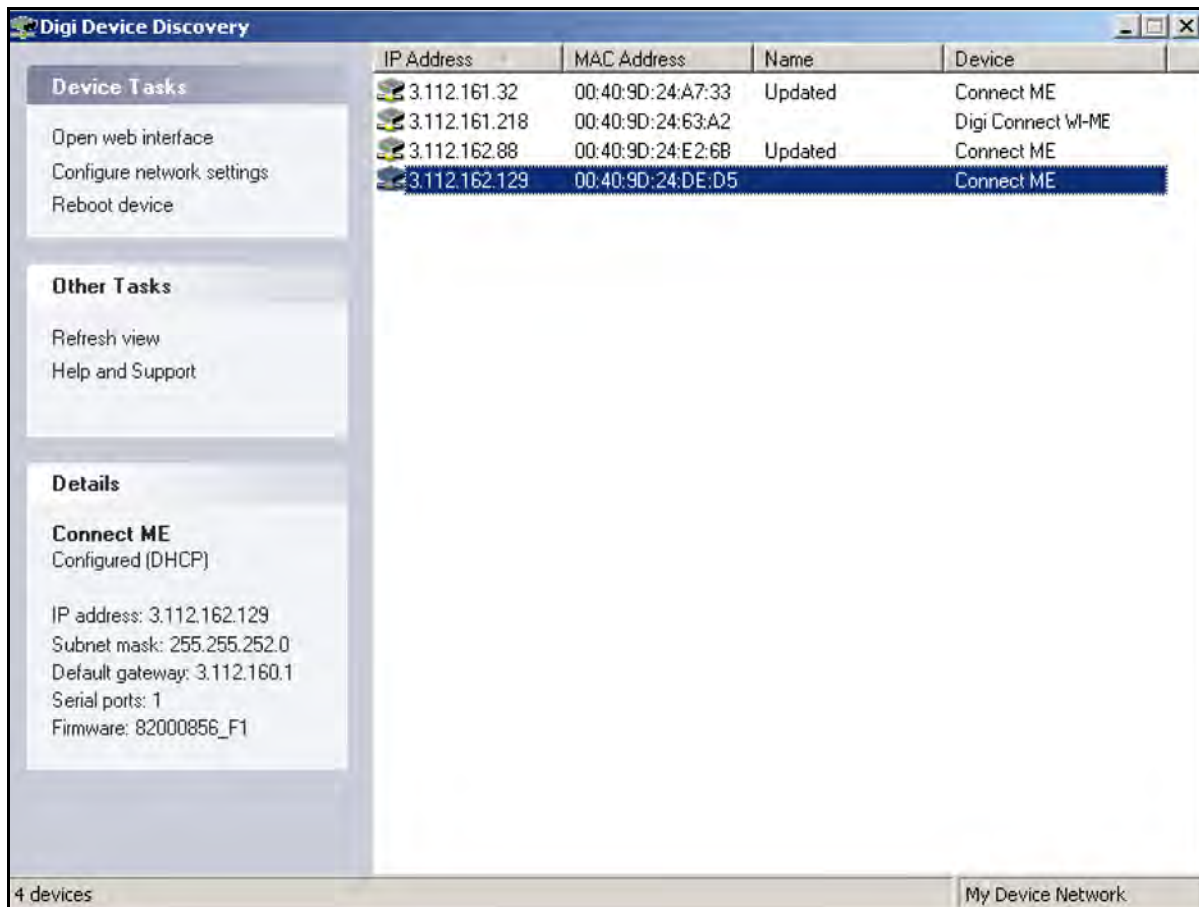

Figure 31: Finding the Assigned IP Address
1. Run the *Digi Device Discovery Program* (see Figure 31).